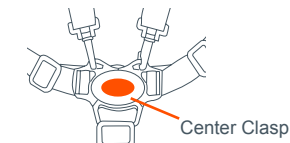

Fig. 14
14) To release, push Button on Center Clasp, the two Harness Buckles will pop free (Fig. 14).